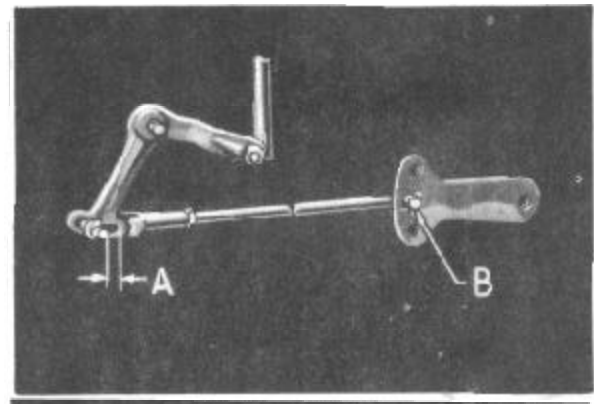

Figure 33--Throttle Rod Clevis Adjustment
37. Throttle Rod Clevis Adjustment. The throttle rod must be adjusted at point (B), Figure 33, as follows:
that would change the relation between the throttle and clutch valve linkages. Adjust clevis at (A), Figure 33, until all lost motion is taken up, that is, any additional pedal travel will increase the engine speed